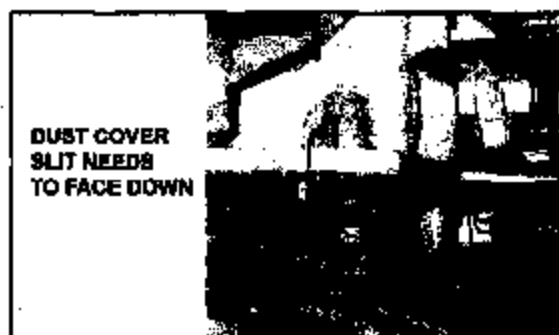

Figure 3
4. Position the new accelerator cable dust cover over the accelerator cable housing (see figure 3). **NOTE: The dust cover slit must face down.**